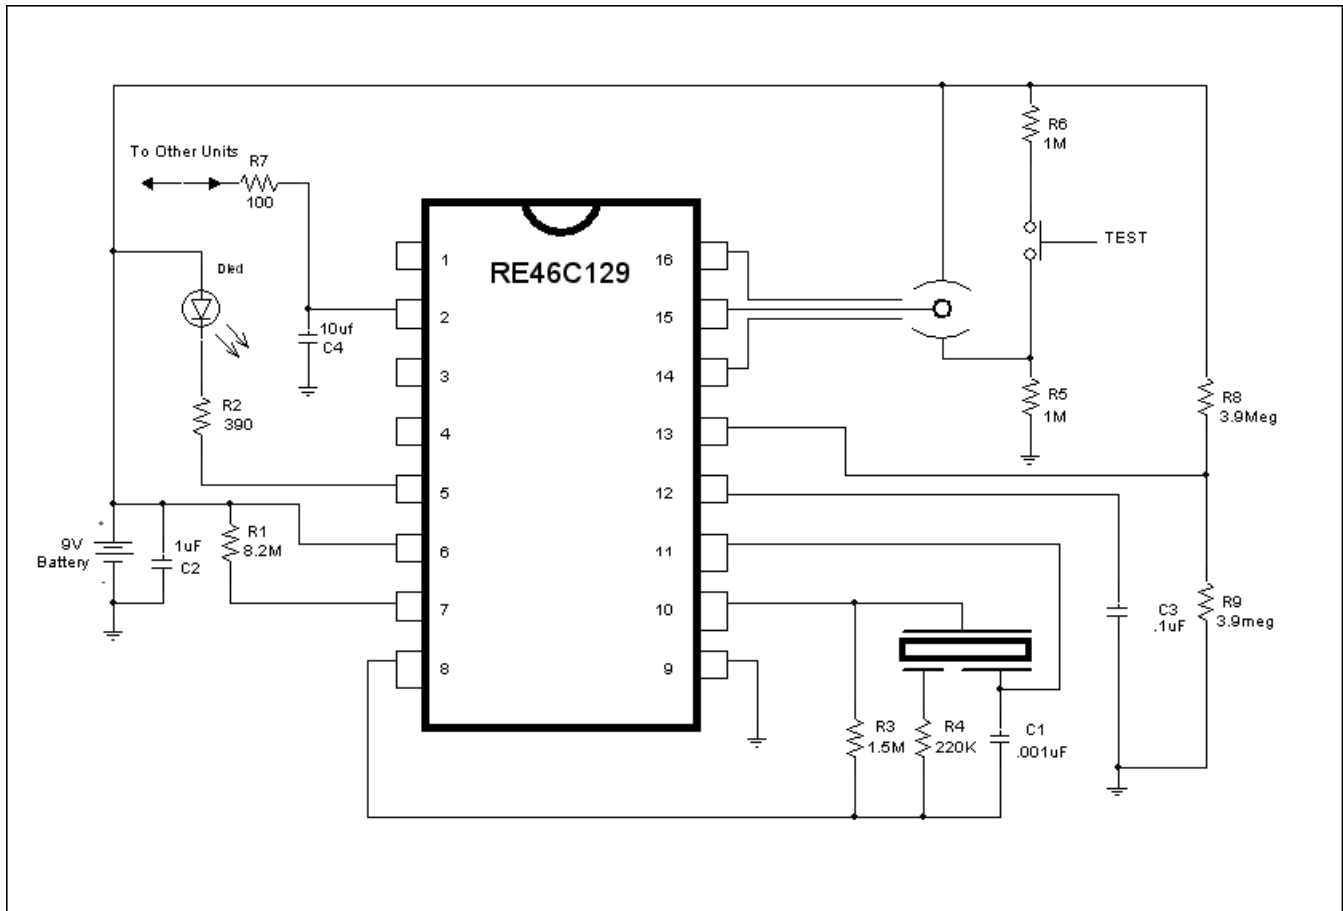

Figure 2
**Smoke Detection Circuit** – The smoke comparator compares the ionization chamber voltage to a voltage derived from a resistor divider across VDD. This divider voltage must be provided externally on pin 13 (VSEN). See the application drawing (FIG 2).